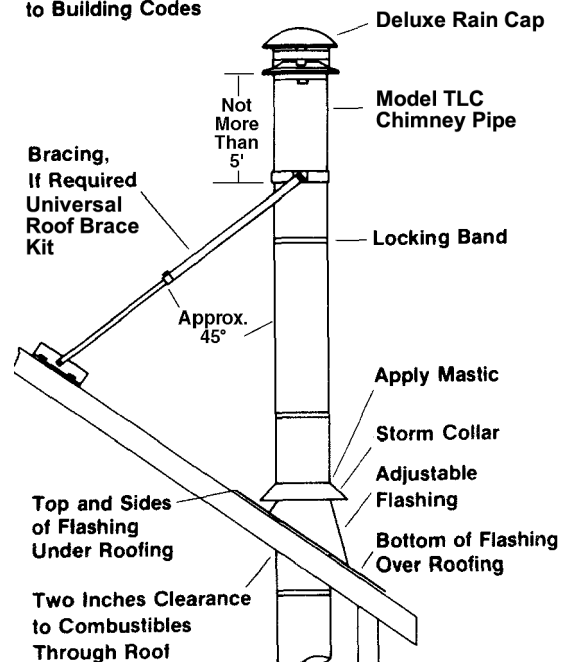

Figure 2 Chimney Flashing & Bracing
3. Finish roofing around chimney, covering the side and upper areas of the flange with roofing material. However, be sure the lower unnailed portion of the flange covers the roofing material. See Figure 2.
- a. As a general rule, clamp the support band to the chimney at a point about $\frac{2}{3}$ of height above the roof. The angle of the support braces to the chimney should be approximately 45 degrees. (See Figure 2.)
- 2) The height of the chimney above the support band does not exceed 5 feet. (See Figure 2.)
1. Install flashing and storm collar in usual manner. See Figure 2.